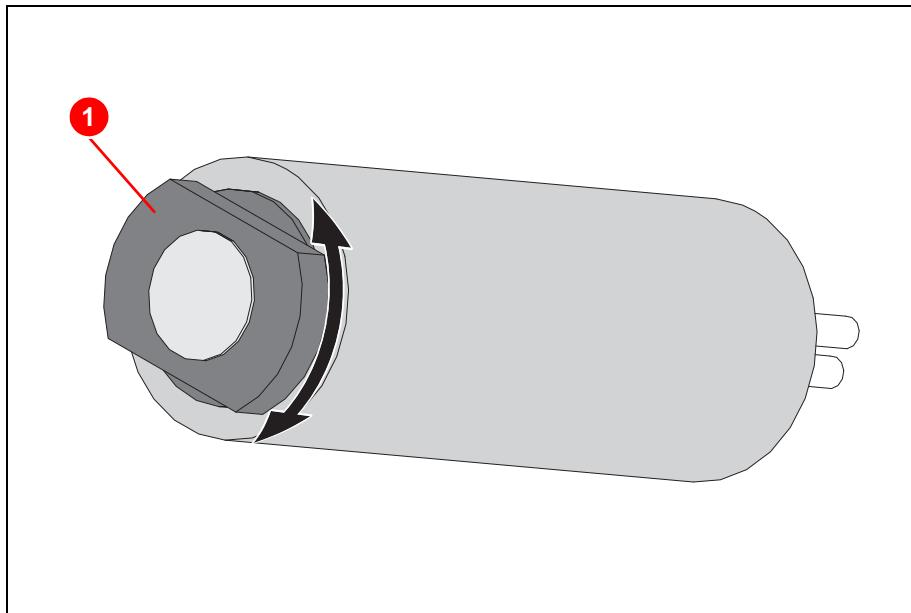

Figure 3.31 Positioning laser – 5
11. Using the brass screw (1) (Figure 3.31), align the red laser beam to a white surface that is about 1.5 m to 2 m away; turn the brass screw until the minimum diameter of the laser beam is attained.